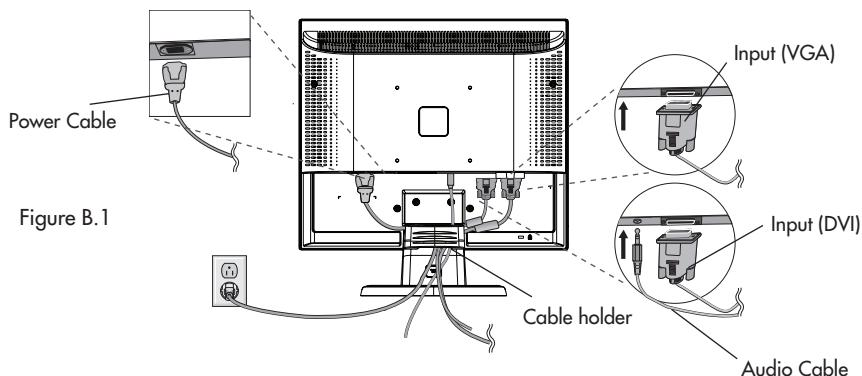

Figure C.1
4. Attach the Cable Holder onto the Base (**Figure C.1**). Place all cables together between holes at the back of the stand. Insert the hooks on the Cable Holder into the holes at the back of the Stand and slide the Cable Holder downward into place. Adjust the position of cables between the holder to avoid damage.